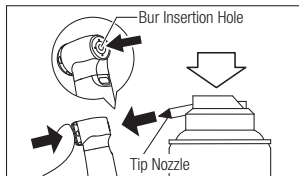

Fig. 10
- 2) Lubricate the chuck directly where the bur is inserted (Fig. 10).